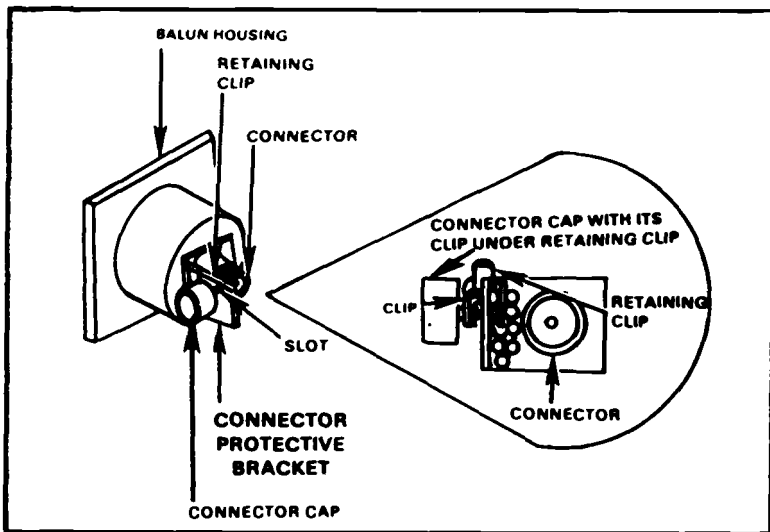

Figure 3-11. Captivating feed cone assembly connector cap.
- a. Unscrew the connector cap of the feed cone assembly connector and secure the cap to the connector protective bracket (Figure 3-11).